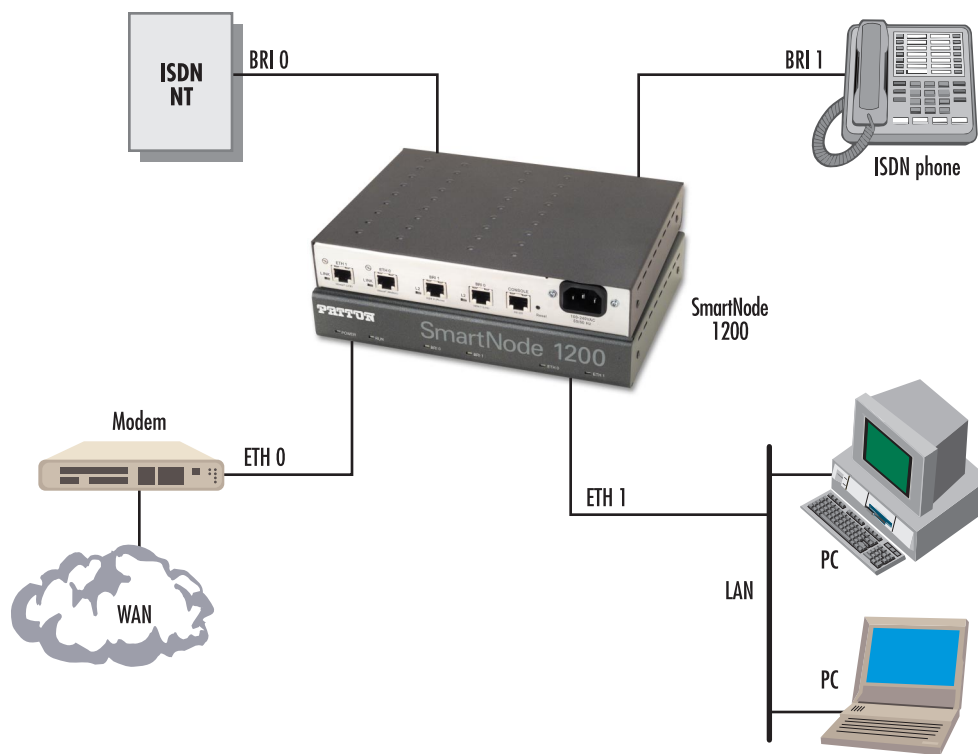
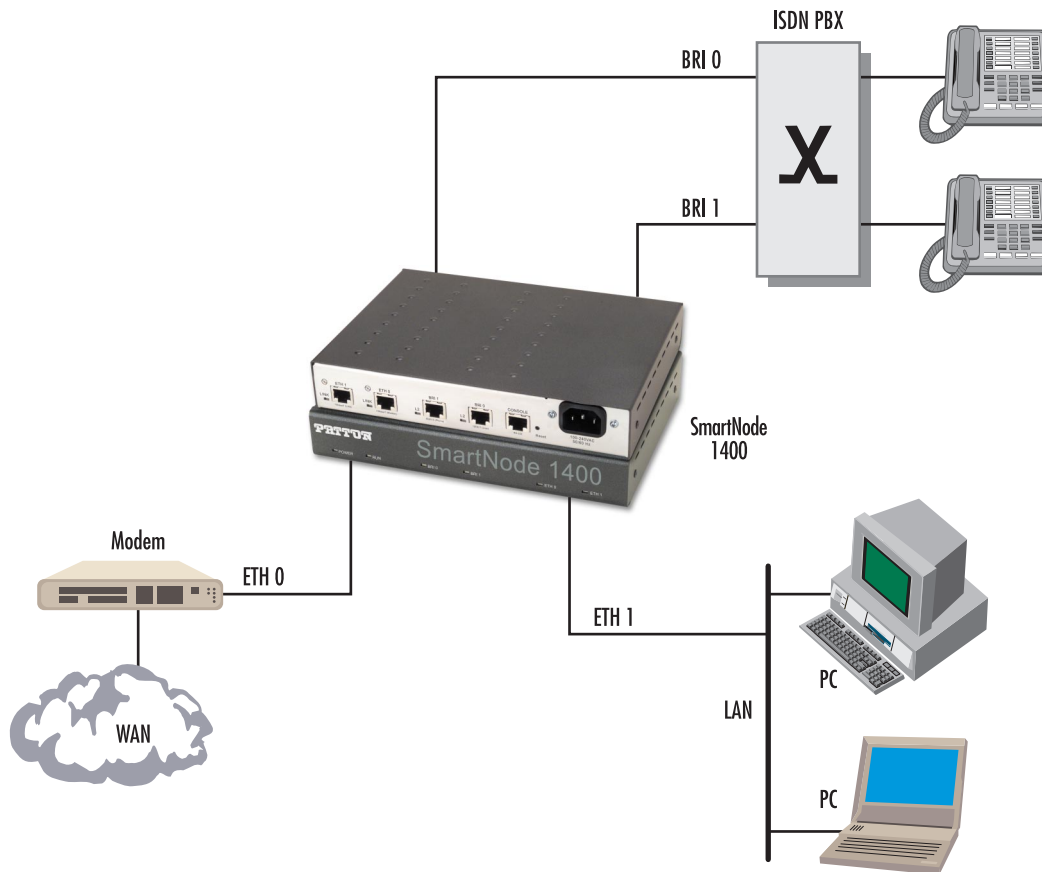
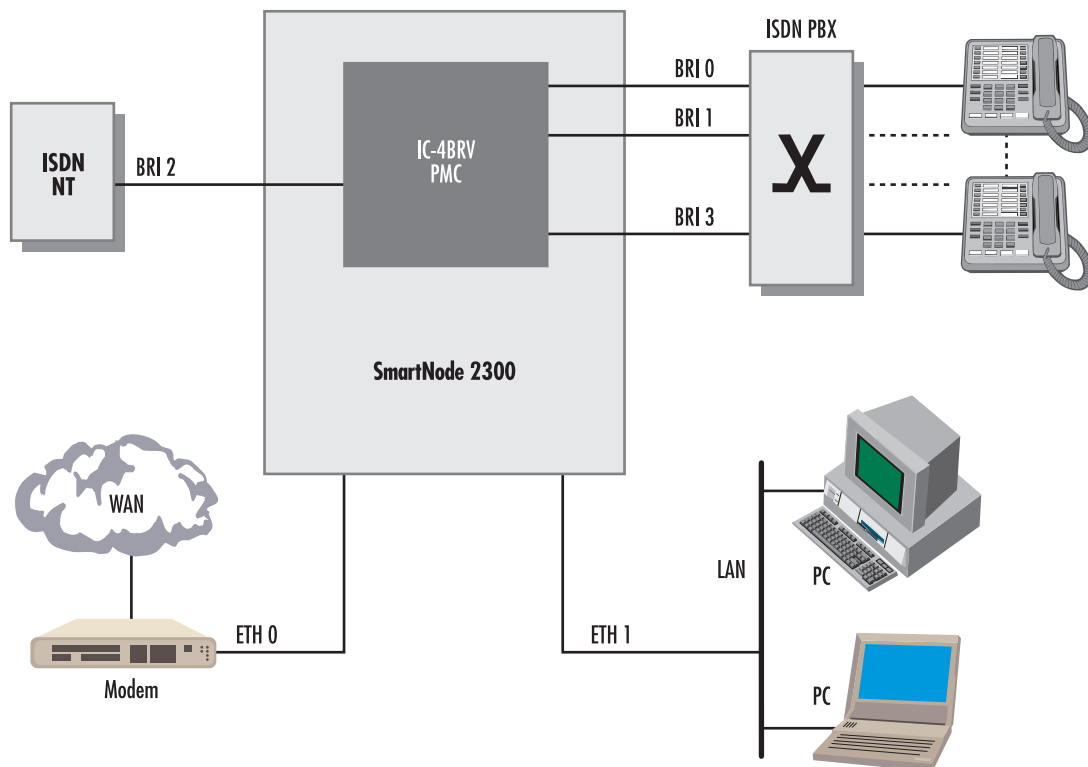

Figure 28. SmartNode 1200 with ISDN phone and ISDN fallback in a SOHO environment
Figure 29. SmartNode 1400 attached to PBX via both ISDN BRIs in an SME environment
Figure 30. SmartNode 2000 Series device connected to a PBX via three BRI ports with fallback to PSTN with one BRI in an SME environment
Figure 28, figure 29 on page 54, and figure 30 on page 55 show typical deployment scenarios for the SmartNode 1000 and 2000 series used as a customer premises gateway supplied by a multi-service provider.
Figure 28 depicts a SmartNode 1200 used as a voice gateway and IP router in a SOHO situation. The voice gateway operates with both H.323 and ISoIP on a call-by-call basis. The SmartNode is connected to the ISDN NT for voice call fallback or exceptional call routing scenarios via port BRI 0. An ISDN telephone is connected to port BRI 1. An ISDN telephone is connected to port BRI 1. A PC is connected to the LAN port. A laptop is connected to the LAN port. A modem is connected to the WAN port via Ethernet 0. A PC is connected to the LAN port via Ethernet 1.
The SmartNode 1400 in figure 29 is set up as a voice gateway and IP router in an SME situation. Both BRI ports are attached to a local PBX, offering up to four simultaneous voice channels to the IP access network that is connected to the Ethernet port ETH 0.
Figure 30 depicts a SmartNode 2000 series used as a voice gateway and IP router in an SME situation. The optional IC-4BRV interface card's BRI 2 port is used as an ISDN fallback interface. In case of a power failure, equipment connected to port BRI 1 is bypassed with a relay to interface BRI 2. It remains operational even if the SmartNode 2000 series is not powered. Three ports of the PBX are connected to the remaining BRI ports of the IC-4BRV interface card, providing up to six concurrent ISDN B-channels. The voice data is transferred via the integrated voice gateway in the SmartNode 2000 series over Ethernet port ETH 0/0. Depending on the call procedures defined by the software running in the SmartNode 2000 series, voice data is formatted as H.323 compliant or as ISoIP voice streams.
- Figure 28 on page 53
- Figure 29 on page 54
- Figure 30 on page 55